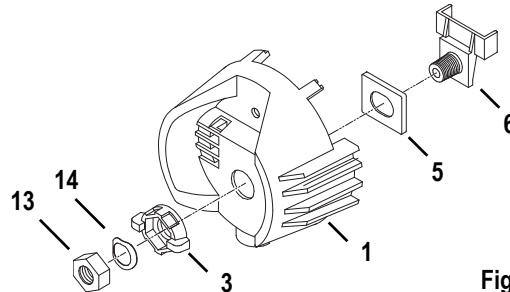

Figure 5
- Step 7: Install the bushing cup (5) into the housing socket casting (1) as shown in Figure 5. The cup should slide smoothly up and down, but not side to side.
- Step 8: Insert the threaded end of the index hub (6) through the holes in the bushing cup and the back of the housing socket casting (1).
- Step 9: Slide the X-Y knob (3) over the exposed index hub bolt (6), then insert the wave washer (14) on the bolt and secure with the 9/16 hex nut (13). Hand tighten the X-Y knob (3).